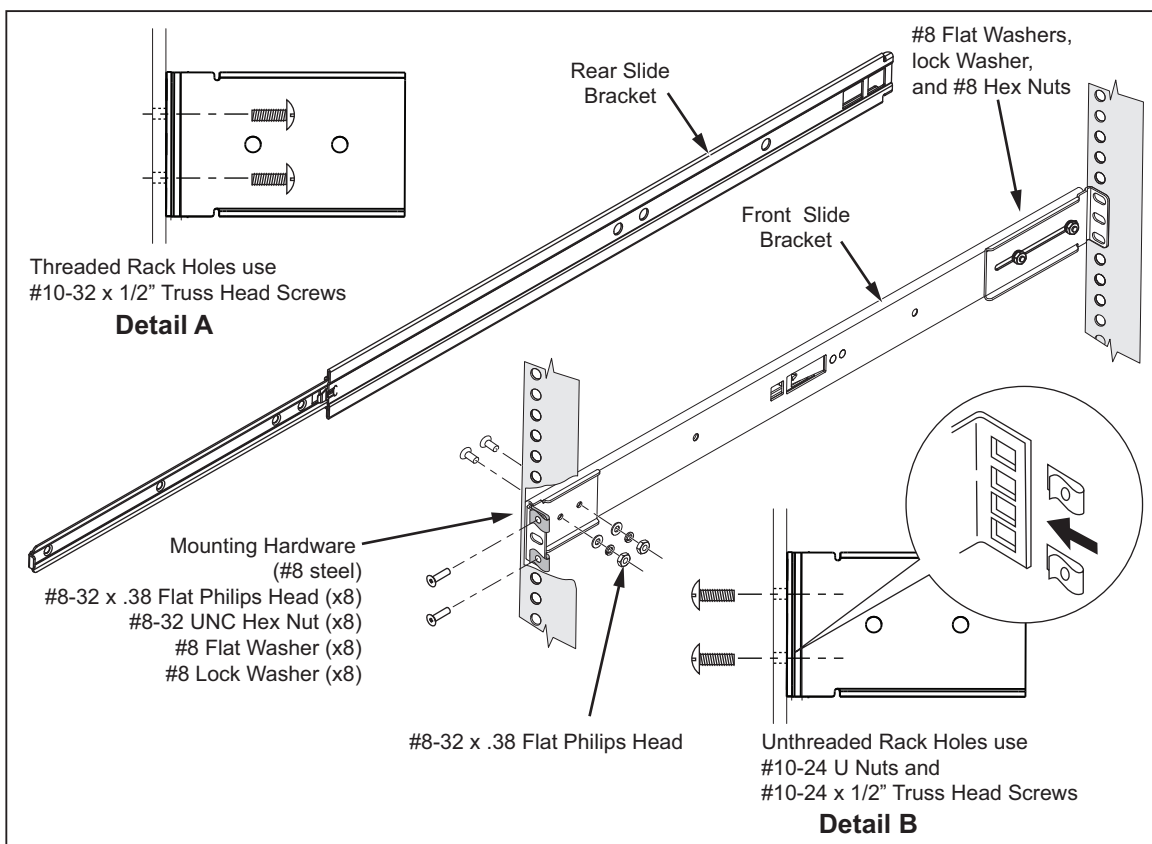
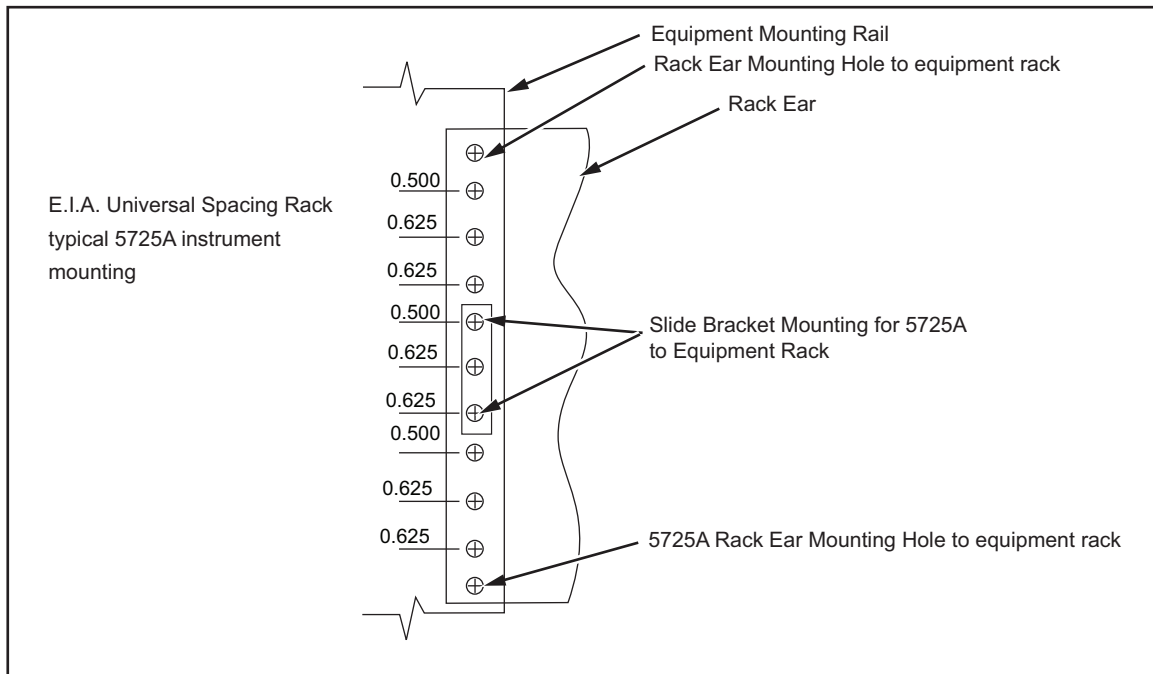

Figure 2. Installing Rack Slides
Figure 3. Typical 5725A Mounting Locations
5. Install the front slide brackets (shorter pair) to the equipment rack mounting rails as Figure 2 shows. (Refer to Figure 3 and 4 for typical mounting holes spacing.) If your rack has threaded mounting rails, use two #10-32 x 1/2" truss-head screws as shown in Figure 2, Detail A. If your rack has unthreaded mounting holes, use two #10-24 x 1/2" truss-head screws and two #10-24 U-nuts as shown in Figure 2, Detail B.
7. Attach the slides to the front brackets using two #8-32 x 3/8-inch flat Philips-head screws, two #8 flat washers, two #8 lock washers, and two #8 UNC hex nuts as Figure 2 shows. Align the slides to the rear brackets the same way as the front, except fully extend the slides to access the screw heads.